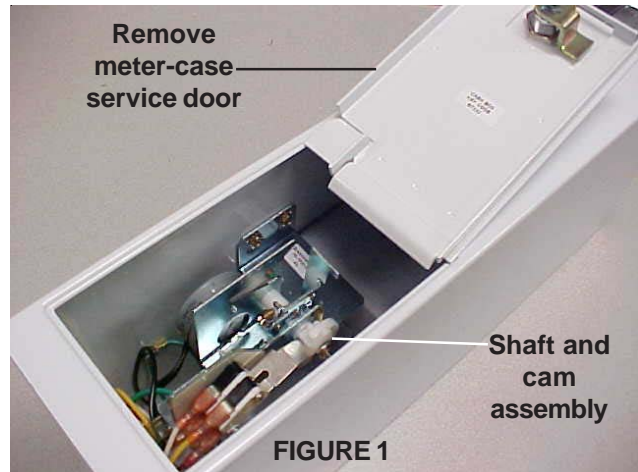

FIGURE 1
2. Remove meter-case service door. (Fig.1)